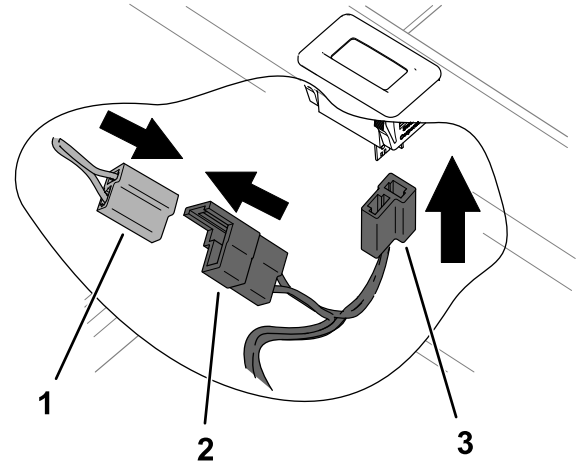

Figure 9
3. Connect the hour meter "out" connector from the kit wire harness to the hour meter connector from the machine wire harness (Figure 9).